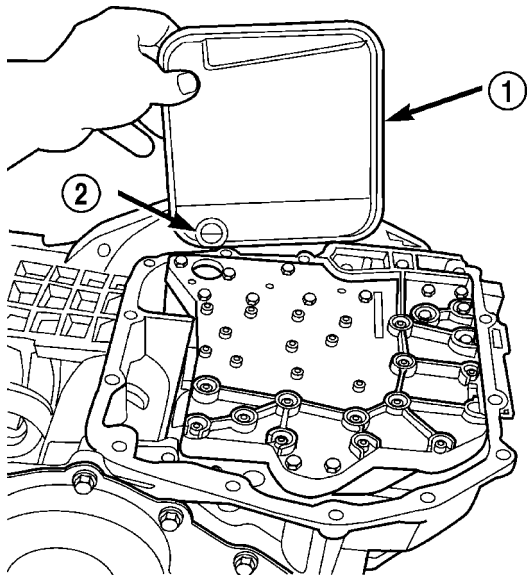

Fig. 374 Oil Filter
(2) Install transaxle oil filter (Fig. 374). Inspect the o-ring and replace if necessary.